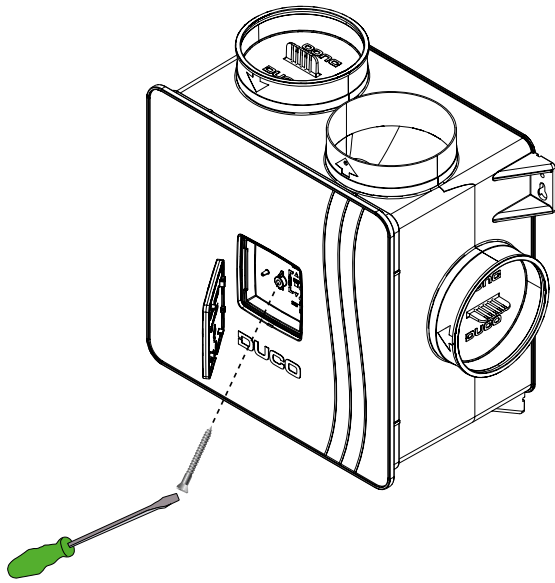
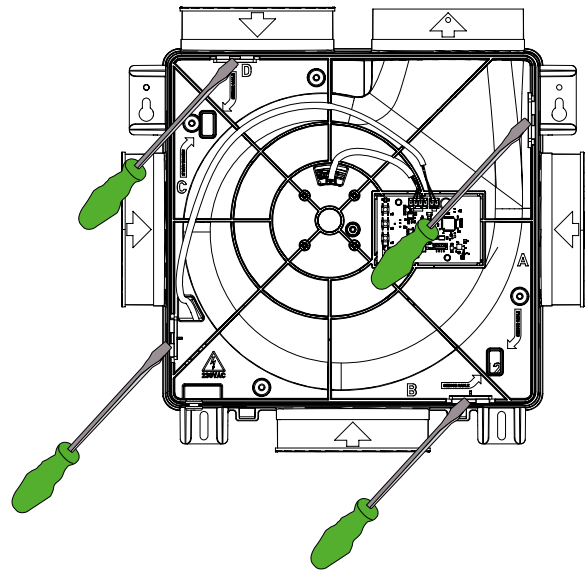

Figure 11: remove the cover plate and unscrew the lid
Figure 12: detaching the motor plate
1. Disconnect the DucoBox Reno from the mains and remove the lid of the DucoBox Reno. To do this, first remove the screw located behind the cover plate. (Figure 11: Remove the cover plate and unscrew the lid).
2. Disconnect the motor plate by unclipping the 4 clamps. To do this, slide a flat screwdriver behind the clamp and tilt it back slightly (approx. 5mm) so that the clamp is released from the opening in the casing (see Figure 11: open the casing and Figure 12: remove the motor plate).